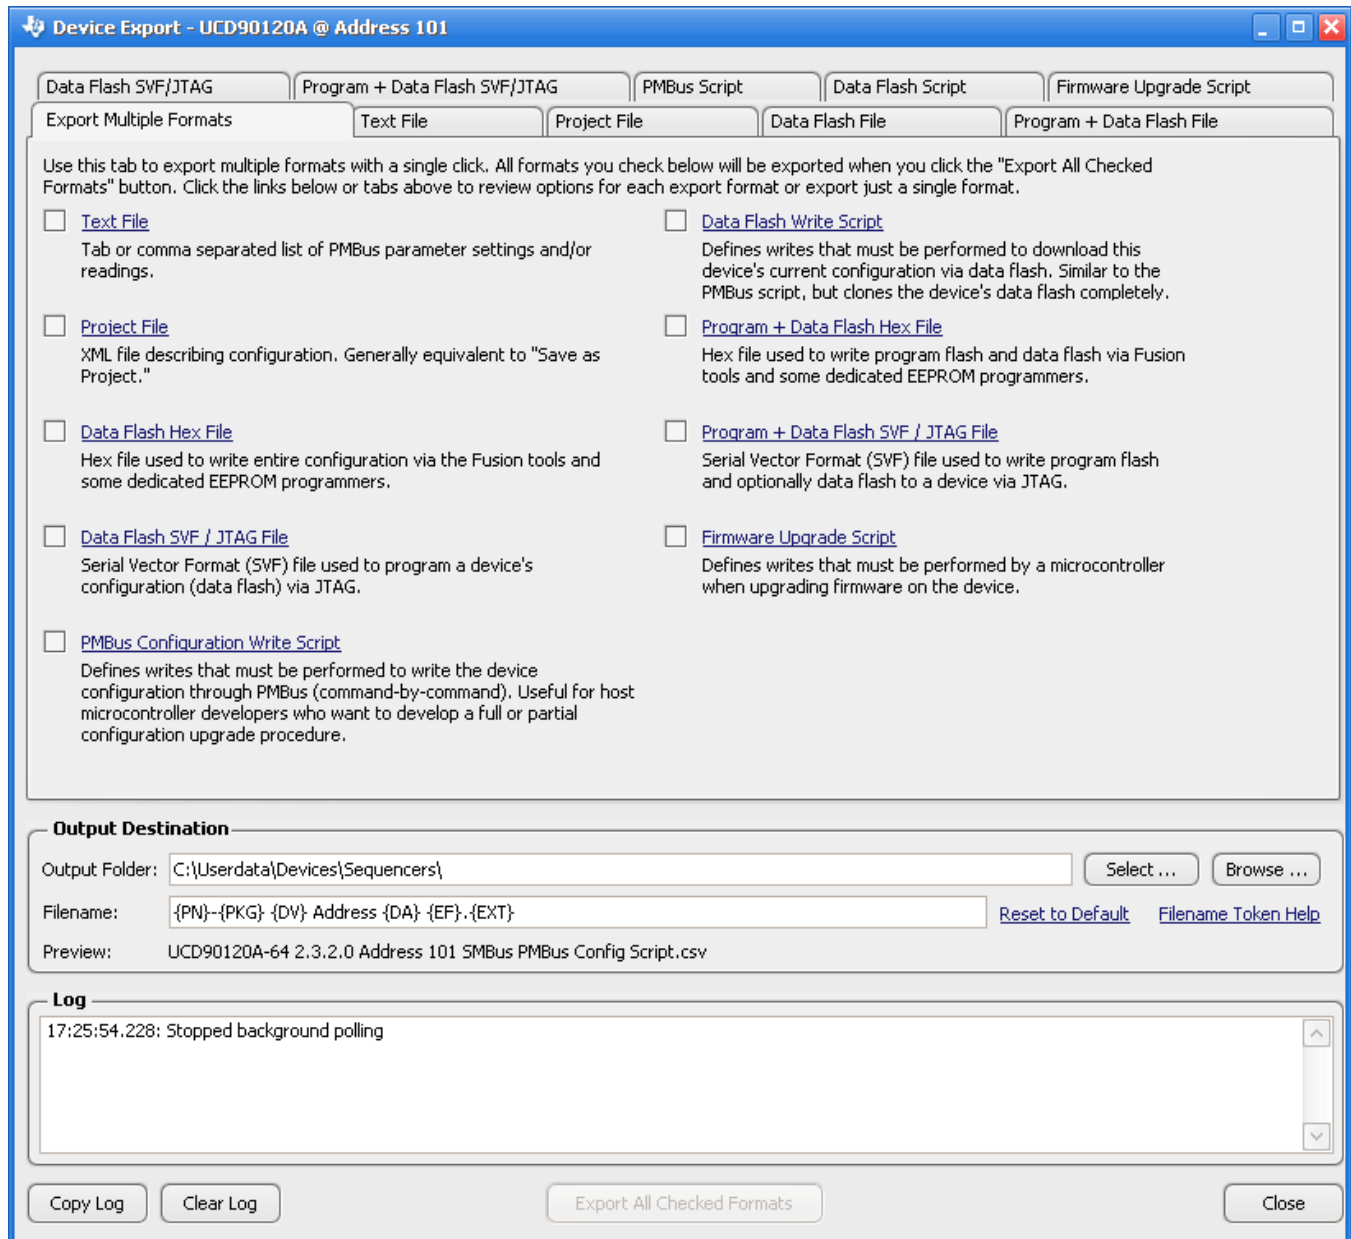

图 31. Fusion GUI Device Configuration Export Tool
- Another in-circuit programming option is for the *Fusion GUI* to create a data flash image from the configuration file (图 31). The configuration files can be exported in Intel Hex, Data Flash Script, Serial Vector Format (SVF) and S-record. The image file can be downloaded into the device using I²C or JTAG. The *Fusion GUI* tools can be used on-board if the *Fusion GUI* can gain ownership of the target board I²C bus. It is recommended to use Intel Hex file or data flash script file for production programming because the GPIOs are under controlled states.